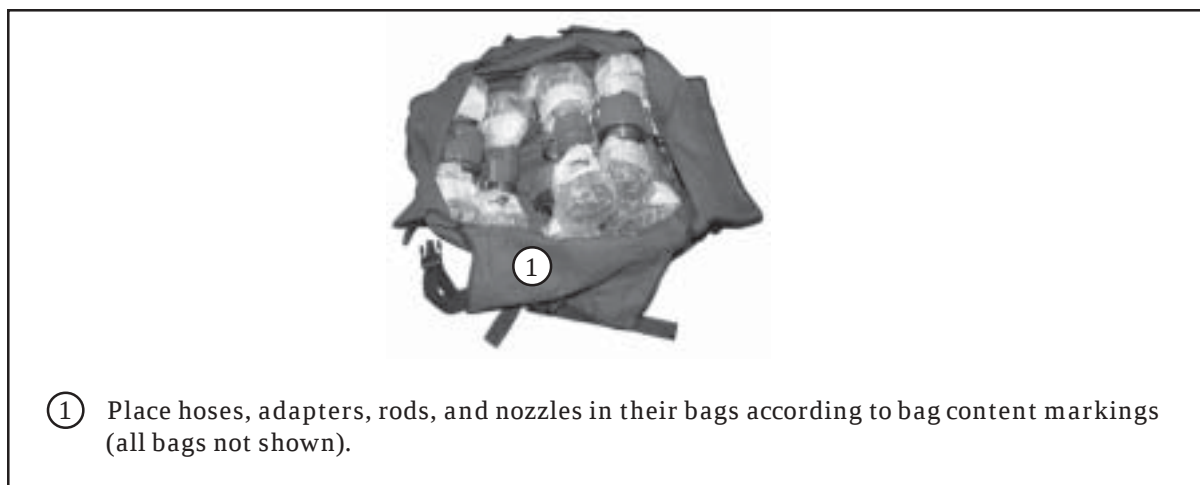

Figure 4-9. Equipment Bags Secured
d. Prepare and secure the hose and equipment bags as shown in Figure 4-9.